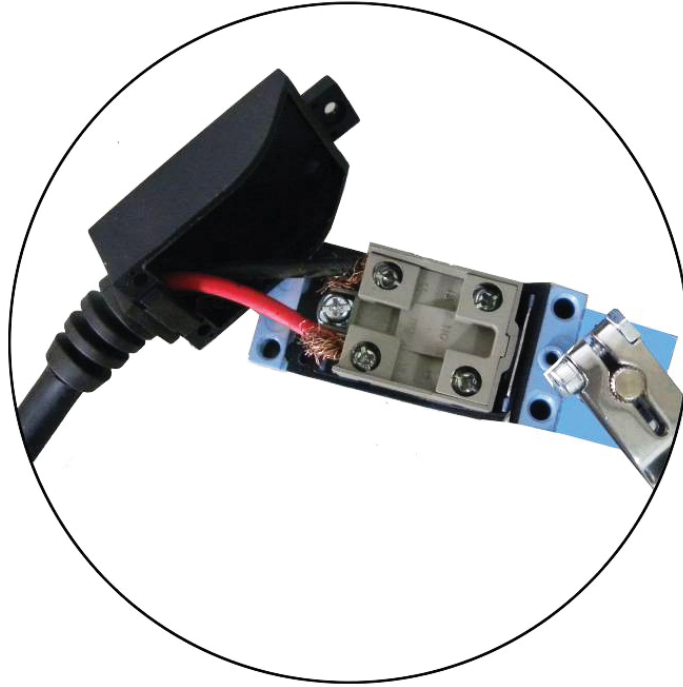

Fig. 31
2. Connect the limit switch with the cable wire. Connect wires to terminals #11 & #12 (See Fig. 31).